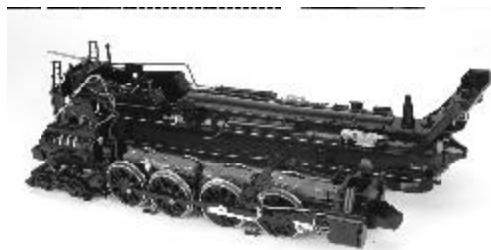

Figure 14: Remove gear box mounting screws
3. Separate the chassis from the boiler shell by lifting the chassis out and unplugging the connectors under the cab area. (See figure 14).